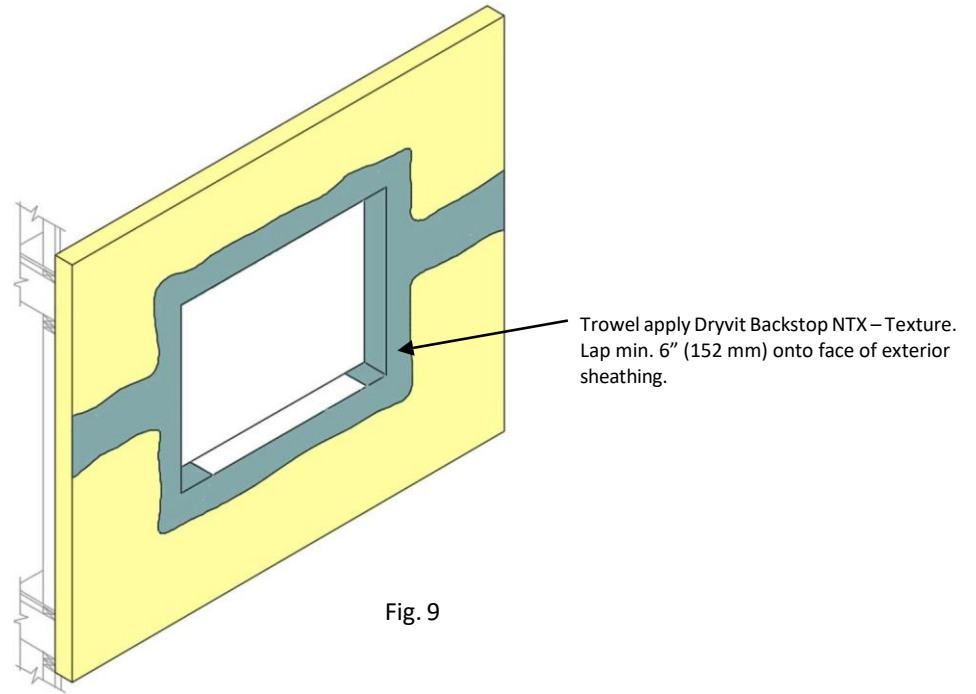

Fig. 9
- 2) Using a stainless steel trowel apply Backstop NTX – Texture over the Grid Tape extending to the inside face of the opening and onto the face of the exterior sheathing a minimum of 6 in (152 mm) – Figure 9.